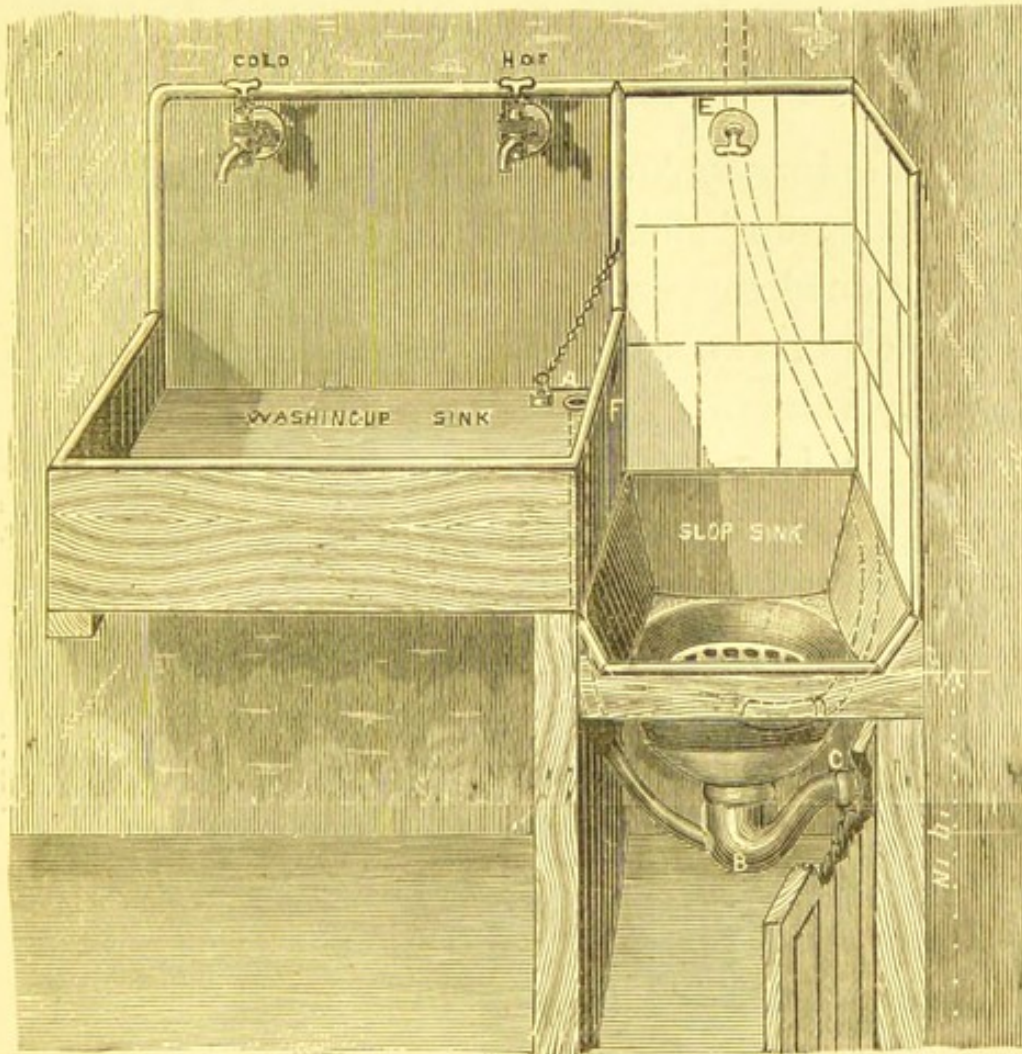

FIG. 31.\*
A slop-sink can be formed in many ways. It can be fitted up by itself, or attached to an ordinary housemaid's washing-up sink; and thus the two may be combined (see Fig. 31). If cheapness is a consideration, it may be fitted up in a most inexpensive and simple way—in addition to the cost of the waste. All that is necessary is a pottery-ware basin (white inside), large enough to receive a pailful of slops, and for this an ordinary water-closet hopper will do very well. There should be a lead tray over it, standing up about 6 in. at the back and the two sides, and about 2 in. in the front, to prevent splashings over it; and this tray should fall towards the basin with the lead bossed down a couple of inches into it.
This sink, when fixed up-stairs or inside a house, having a lead waste-pipe from it, should always have a lead trap under it, as shown on Plate 3, Fig. 1. (See Fig. 31, showing a "water-shoot" slop-sink with a housemaid's sink combined.)
*Washing-up Sink and Slop-sink combined.*—The "washing-up" sink, Fig. 31, is a wood sink, lined with tinned copper, the back of which is taken up an inch or two above the hot and cold draw-off supply-valves, to prevent splashing against the wall. A is a plug and washer, as Fig. 32, and from this a 2-in. lead waste-pipe is taken into the trap under the slop-sink.
The slop-sink in the diagram is a patent "water-shoot," as Fig. 30, with a 4-in. patent cast-lead trap, B, Fig. 31, as Fig. 7. A lead "seating" is soldered on the top, or inlet, of this trap, to receive the slop-sink, and the *outgo* of the trap, c, is soldered to the waste-pipe.
*Scullery-maids' Sinks*, where there is rough usage, and a great deal of rough work in connection with hot-water washings-up, should be made of deal, and lined with tinned copper not less than 4 lbs. to the superficial foot in the bottom, and  $2\frac{1}{2}$  lbs. at the sides. These sinks are very durable, and as they are of a smooth substance they can be kept clean and wholesome, and they are nothing like so damaging to crockery-ware as material of an unyielding nature as slate, iron, stone, and pottery-ware, &c. Fig. 31 shows a "washing-up" sink lined with tinned copper as just described.